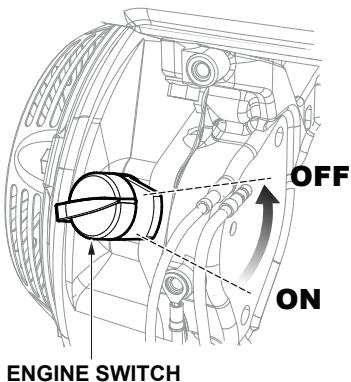

Figure 29. Engine ON/OFF Switch (OFF)
2. Turn the engine ON/OFF switch (Figure 29) to the OFF position.